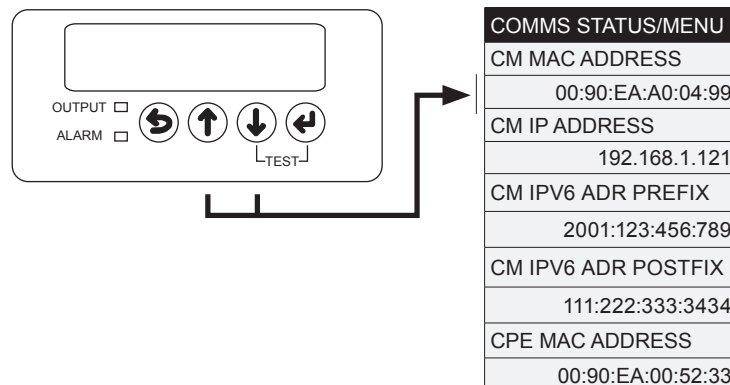

Fig. 7, XM2 Smart Display
- Verify the DM3X transponder communication parameters such as IP address, RF Power Levels and Signal/ Noise Ratio on the COMMS STATUS/MENU of the XM2 Smart Display. Press Enter to open the COMMS STATUS Menu enabling the operator to view values for communications parameters. Pressing the up or down arrow softkeys will show two lines of information for each submenu item (Fig. 7).